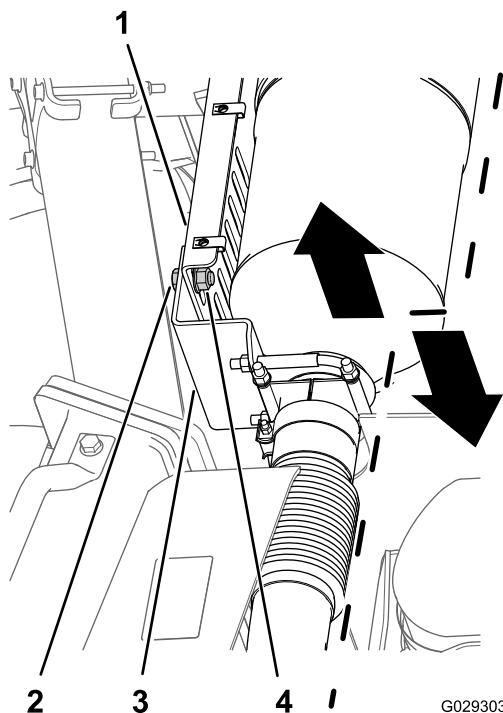

Figure 21
- C. Loosen the 2 flange-head bolts (1/2 x 1 inch) and serrated flange nuts (1/2 inch) that secure the lower-muffler support to the exhaust-system mount (Figure 21).
- D. Move the muffler left or right to align the bellows (Figure 21).